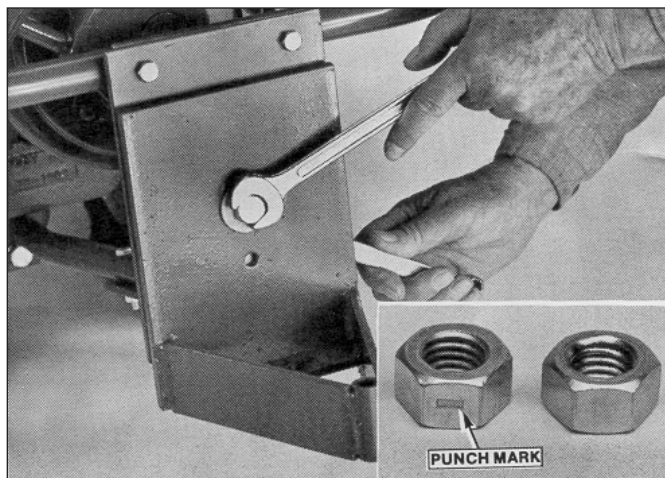

Figure 5: ATTACHING THE SWIVEL BRACKET (A-FRAME)
2. Secure the brackets together by inserting a 1/2-13 x 1-1/2" screw (4, Figure 1) with flat washer (12, Figure 1) and bushing (11, Figure 1) through both large holes and fastening with a lock washer (3, Figure 1) and a **plain 1/2"** hex nut (10, Figure 1), and tighten securely. See Figure 5.
NOTE: Two different 1/2" nuts are included with this attachment (10 & 15, Figure 1). One is a lock nut (with a punch mark) and the other is a plain hex nut. See inset of Figure 5.